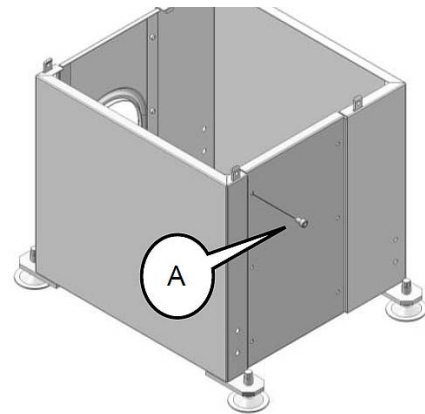

Fig. 7: Mounting the machine base frame
Step 2: Mount the machine base with 12 hexagon socket screws (A, Fig.7).